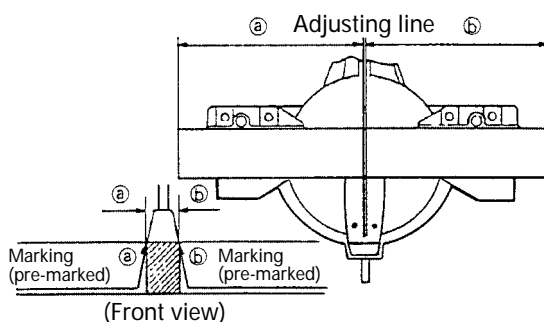

Fig. 21
- (1) As shown in Fig. 21 the width of the saw blade is the width of the cut. Therefore, slide the workpiece to the right (viewed from the operator's position) when length (b) is desired, or to the left when length (a) is desired.